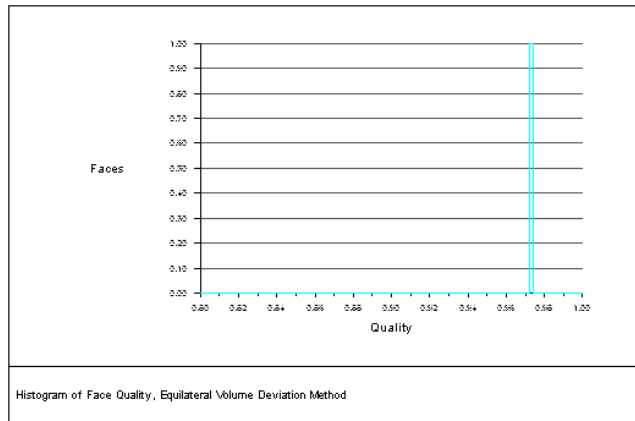

Figure 7.30: Face Skewness Distribution Between 0.8 and 1.0 (After Auto Post Improve)
- (h) Plot the face skewness distribution in the range 0.8 to 1.0 (Figure 7.30).
In Figure 7.30, you can see that there is only one face above 0.8.